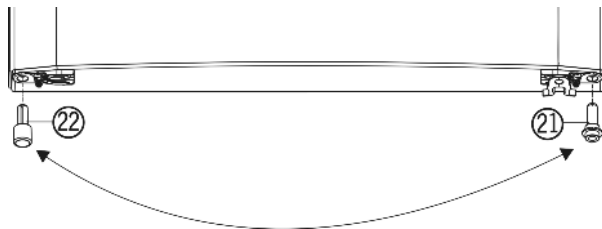

Fig. 5
- ▶ Remove the spacer Fig. 5 (22) from the bottom left of the door.
- ▶ Push the spacer Fig. 5 (22) into the bottom right of the door.